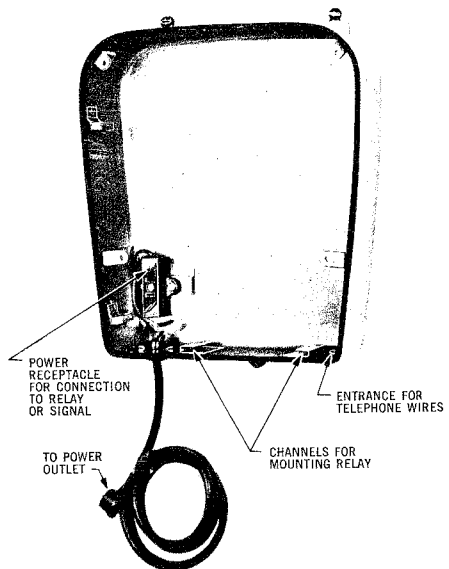

Fig. 3 — NS-16301-Type Back Box, Using Flexible Cordage Installation
3.08 An entrance hole for the telephone wires (control voltages) is located in the base of each back box (see Fig. 3). For dual potential signals, the telephone wire is connected directly